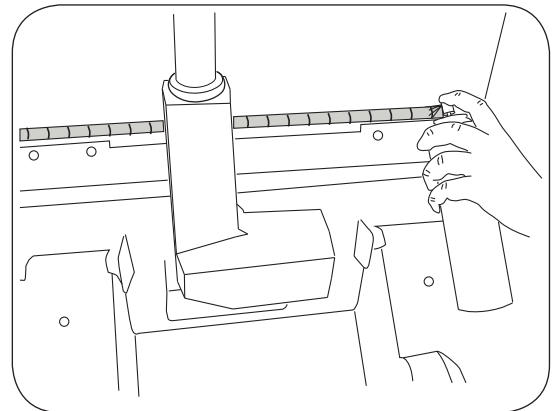

Figure 39. Lubricating the Backrest Hinge
- Lubricate the backrest hinge with a food grade silicon lubricant (Figure 39). Cover surrounding area with cloth to protect from overspray and wipe excess.